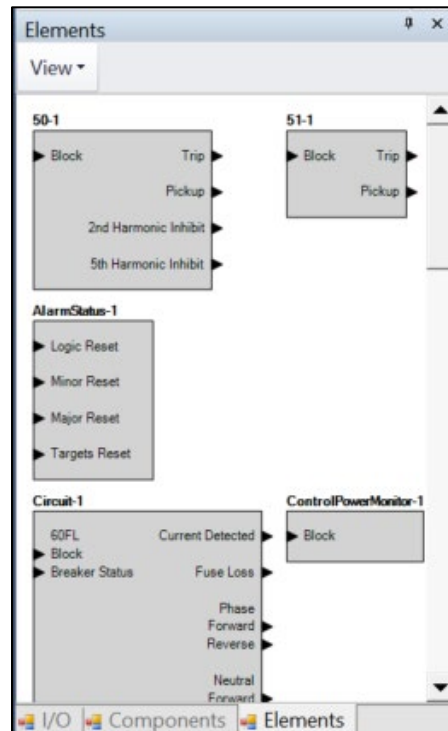

Figure 2-22. Elements Screen
- Select the Elements tab from the library in the center of the screen. Drag the 50-1 and 51-1 functions into the workspace. The Elements screen is shown in Figure 2-22.